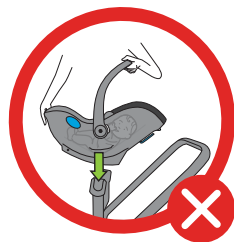

Figure 85
- With the child properly secured in the Carrier position the Carrier so that the Stroller Attachment Points on the Carrier are positioned directly above the stroller car seat adapters, and lower Carrier onto the adapters, as shown in **Figure 85**.